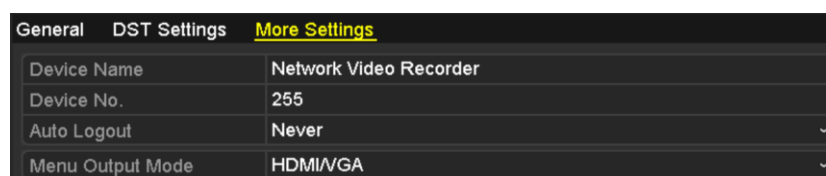

Figure 13-3 More Settings Interface
Step 2 Click **More Settings** to enter the More Settings interface, as shown in Figure 13-3.